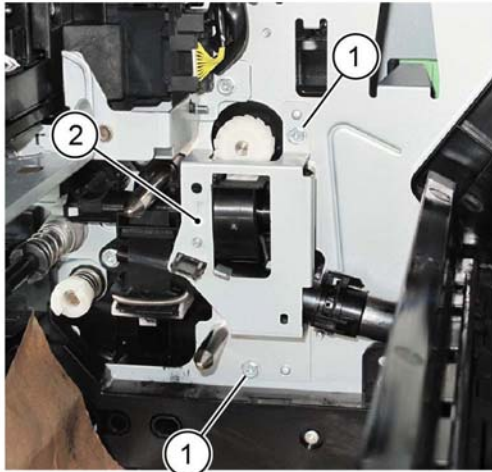

Figure 1 Bracket assembly removal
6. Remove the bracket assembly, Figure 1:
- a. Remove two screws (1).
- b. Remove the bracket assembly (2).